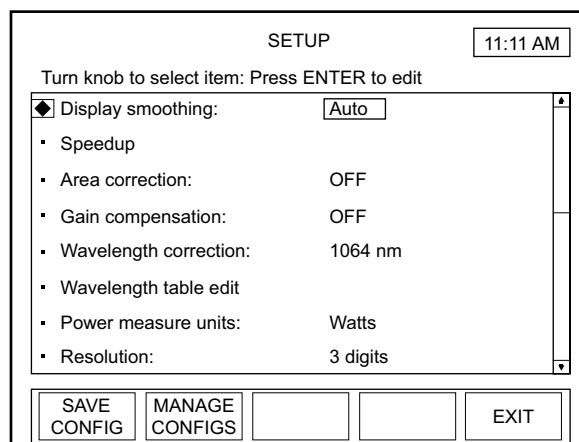

Figure 4-38. SETUP: Display Smoothing
2. Press the ENTER/SET button to highlight the editable field (Figure 4-38).